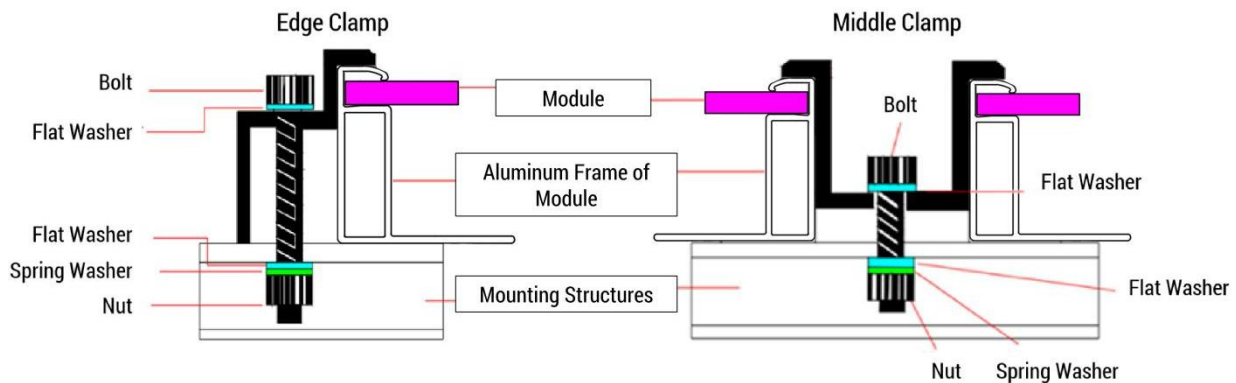
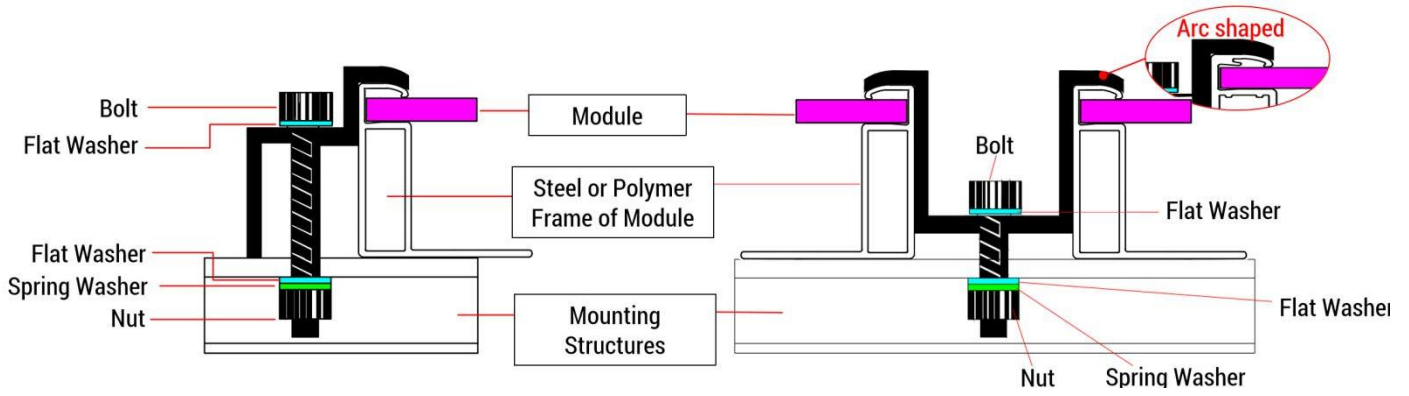

Figure 3
Figure 4
- The recommended clamps for aluminum framed modules are as shown in *Figure 3*. The recommended clamps for steel framed modules and polymer framed modules are as shown in *Figure 4*.